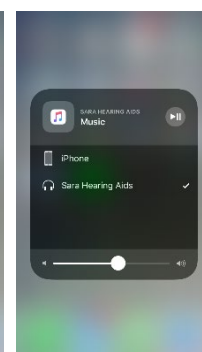

Figure 14
1. Press the  icon in the upper right corner of the audio card. Select your preferred audio source (Figure 14).